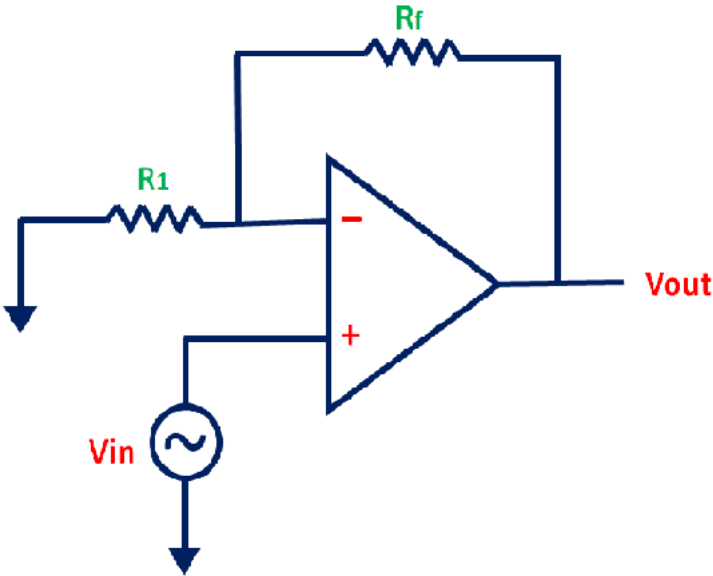

Figure 3.2: Non-Inverting amplifier
1. Connect the circuit as shown in fig 3.2 on the breadboard.